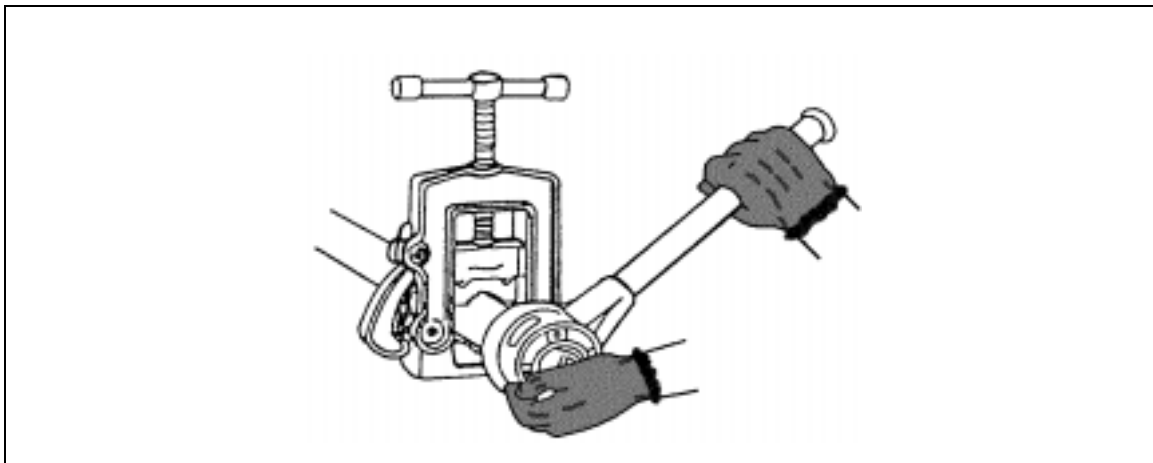

Figure 6-29. Threading Pipe
Step 2. Slide the diestock over the end of the pipe with the guide on the inside. Push the die against the pipe with one hand (*Figure 6-29*).